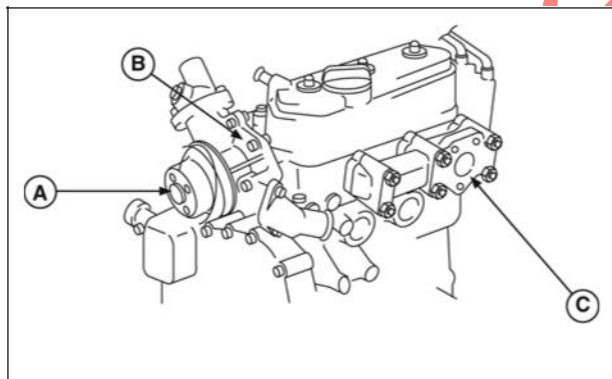

Figure 2
3. Remove the water pump pulley (A, Figure 2), water pump (B), and exhaust manifold (C) from the engine.